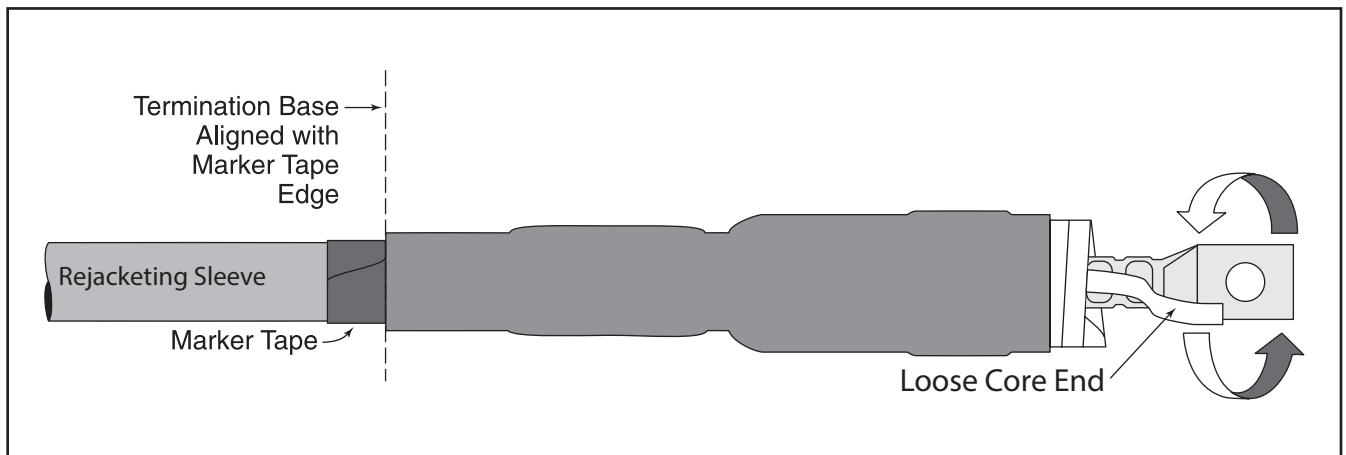

Figure 15
- (c.) Align the base of the termination (not the plastic core) with the installation marker tape as shown (Figure 15).
- (d.) To install, pull loose core end, while unwinding counter-clockwise around the cable. (Figure 15)